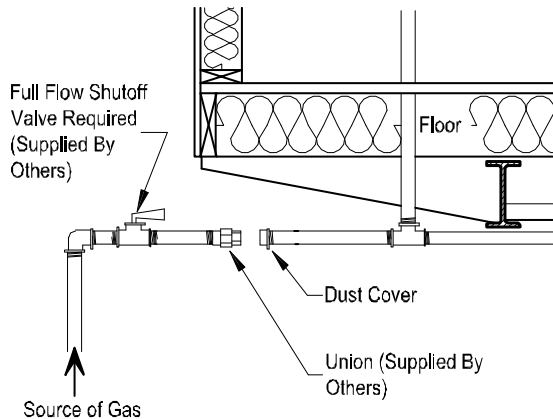

Figure 85. Gas service connection
3. **Remove cap.** Remove the protective cap from home inlet pipe and install a full flow shut-off valve at the supply inlet (**Figure 85**).